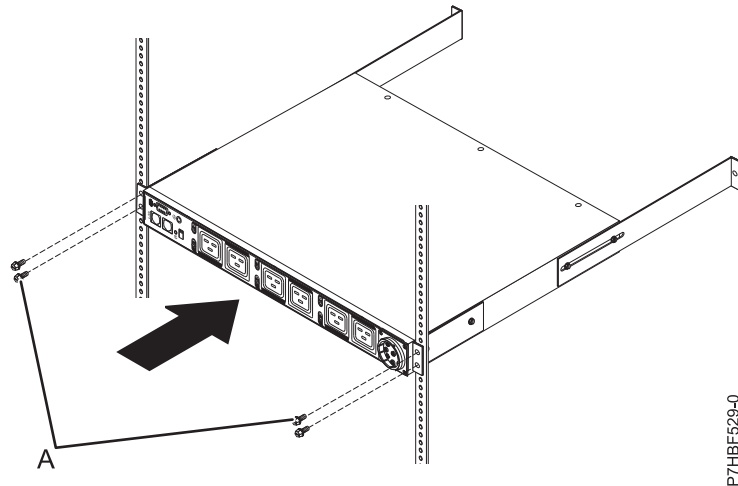

Figure 43. Attaching the front of the PDU+ or Intelligent Switched PDU in the rack
13. Secure the long mounting brackets and the blank filler panel (A) to the rack cabinet by completing the following steps:
- c. Remove the two M6 screws (A) if cage nuts are used, or M5 screws that secure the PDU, PDU+, or Intelligent Switched PDU to the rack flanges.
- h. Align the end of the PDU, PDU+, or Intelligent Switched PDU model with the short mounting brackets with the outside of the rack flanges. Ensure that the rails align properly with the front rack flanges. If not, mark and readjust the mounting rails length by removing the PDU, PDU+, or Intelligent Switched PDU and repeating steps 13b through 13g. Use two M6 screws (A) if cage nuts are used or M5 screws if nut clips are used per bracket to attach the brackets to the nut clips or cage nuts on the rear rack flanges.
- j. Align the blank filler panel (A) on the outside of the rack flanges, as shown in Figure 43.
- k. Attach the filler panel to the rack flanges and then to the long mounting bracket with one M6 screw (B) per bracket. Use the screws that were provided with the rack mounting kit.
14. Secure the long mounting brackets and the blank filler panel (A) to the rack cabinet by completing the following steps:
- d. Align the blank filler panel (A) on the outside of the rack flanges.